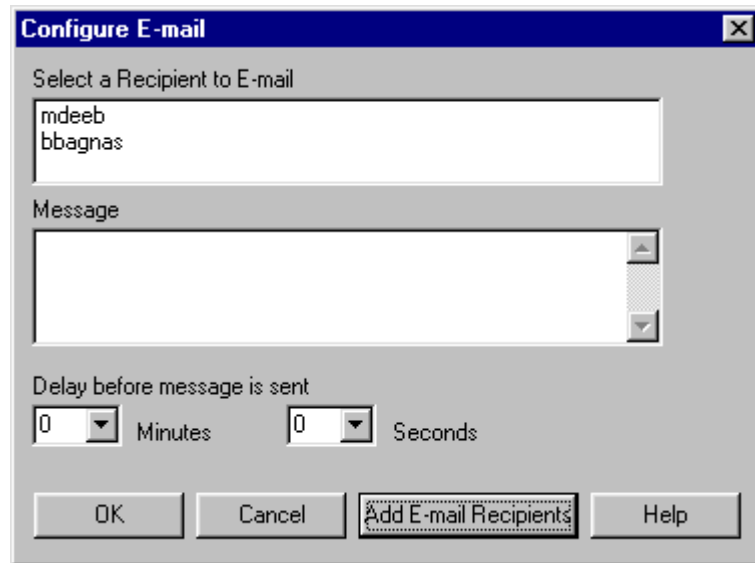

Figure 30. Configure E-mail Dialog Box
2. In the Configure E-mail dialog box, select a recipient to e-mail (see Figure 30).